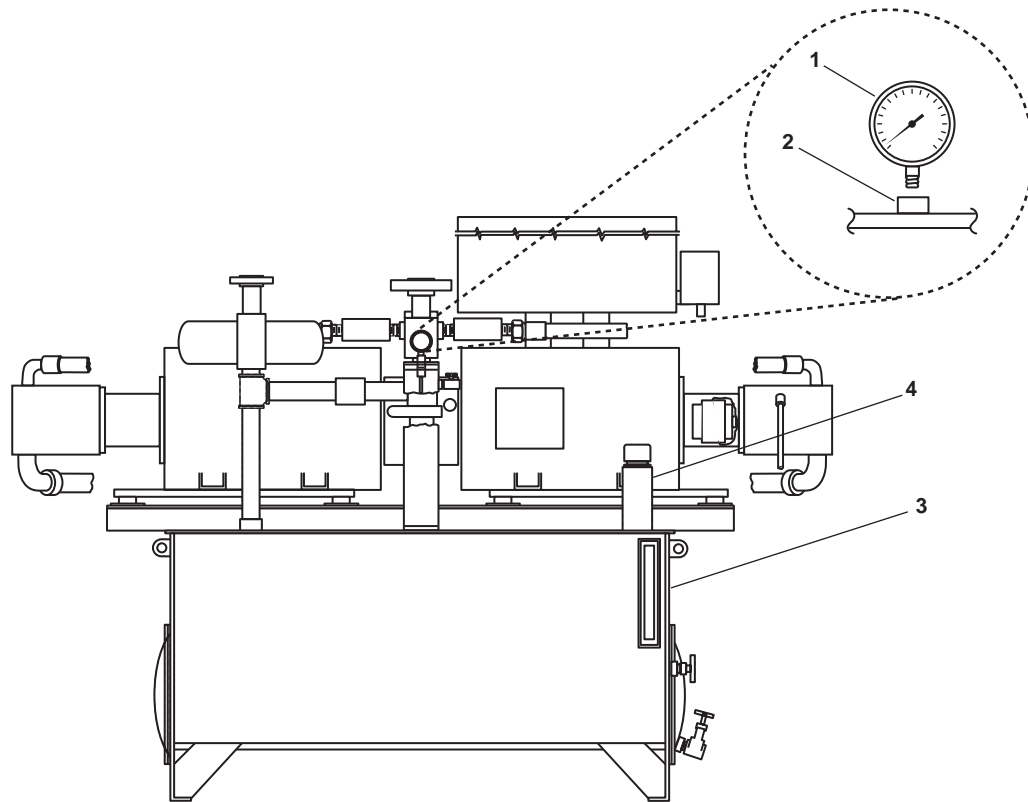

Figure 1. Pressure Gauge Replacement
2. Unscrew the pressure gauge (figure 1, item 1) from its fitting (figure 1, item 2).
1. Apply a thin coat of sealing compound to the male pipe threads of the pressure gauge (figure 1, item 1).
2. Install the pressure gauge (figure 1, item 1) into its fitting (figure 1, item 2) and tighten snugly.